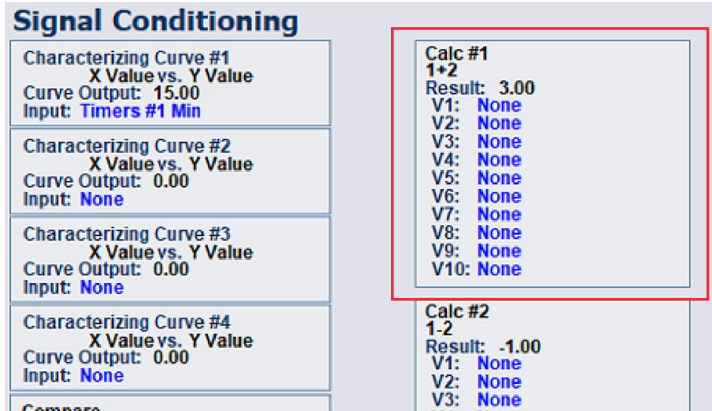

Figure 5.7. Calculation #1 on the Configuration screen.
1. On the **Configuration** screen, open an unused **Calculation** control module (Figure 5.7). **Calculation #1** is used as an example.